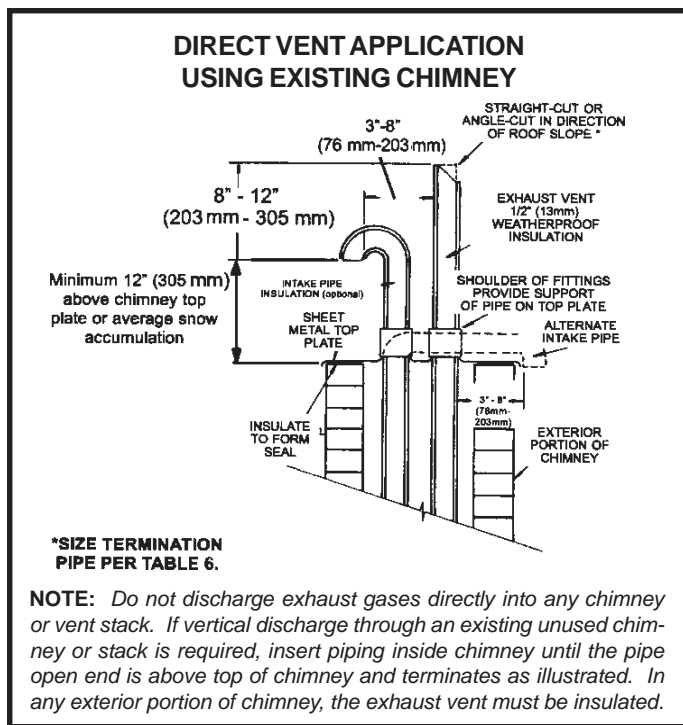

Figure 30
2. Use a 3/8 allen wrench and remove plug (Figure 30) from the cold end header box at the appropriate location on the side of the unit. Install field-provided 1/2 NPT male fitting into cold end header box. Use Teflon tape or appropriate pipe dope.
Upflow furnace (figure 30) - In upflow furnace applications the field provided vent must be a minimum 1" to a maximum 2" length above the condensate drain outlet connection. Any length above 2" may result in a flooded heat exchanger if the combined primary drain line were to become restricted.